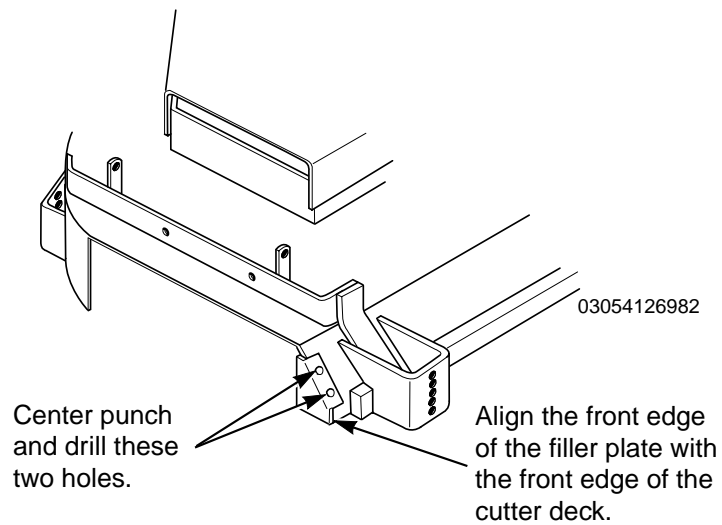

Figure 1. Filler Plate Installation
9. Hold the filler plate (item 12) to the front of the cutter deck as shown in figure 1. Center punch the two hole locations in the cutter deck. Drill the holes at the marked locations using a 1/8" drill bit, then finish drilling using a 9/32" drill bit.
10. Install the deck filler plate to the inside front of the Advantage deck using (2) 1/4-20 x 3/4" bolts and (2) 1/4-20 elastic stop nuts.